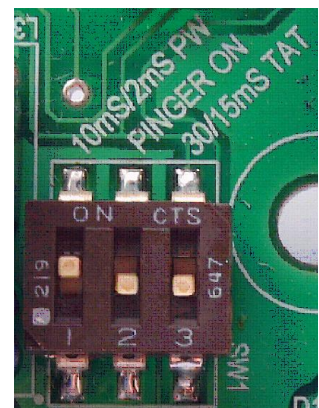

FIGURE 5
- ii. Set the TAT switch to 30mS on the Transmit / Receive board Switch 1, see FIGURE 5.
- iii. Set the pulse width to 2mS on switch 1, see FIGURE 5.